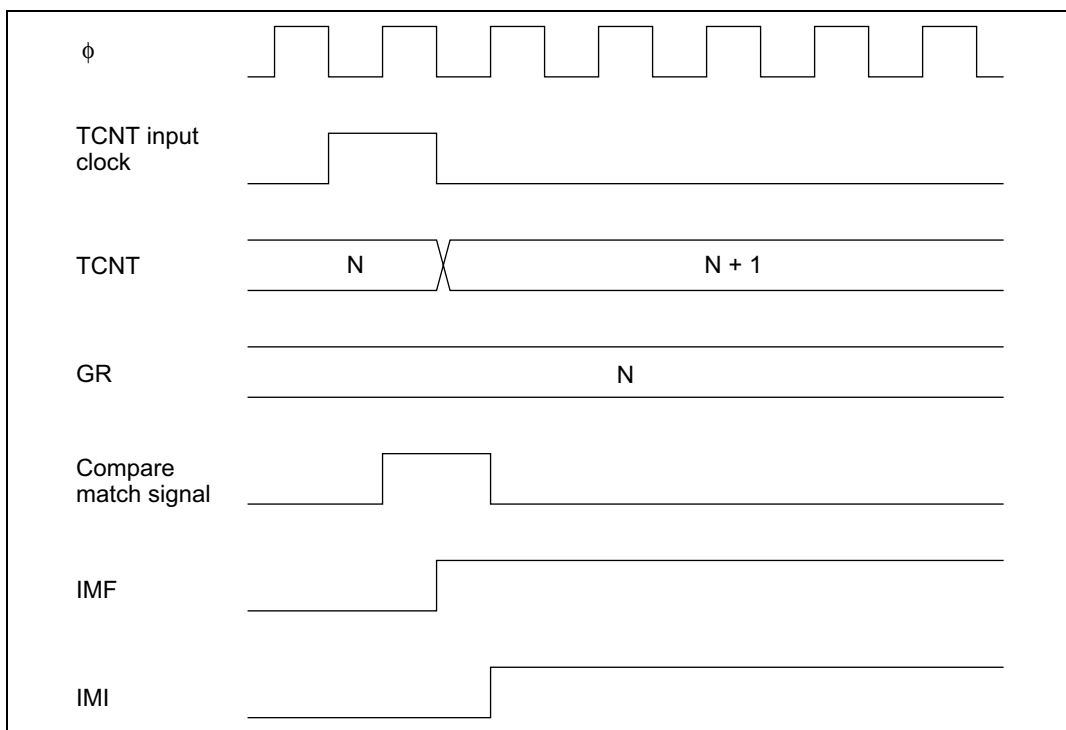

Figure 10.57 Timing of Setting of IMFA and IMFB by Compare Match
IMFA and IMFB are set to 1 by a compare match signal generated when TCNT matches a general register (GR). The compare match signal is generated in the last state in which the values match (when TCNT is updated from the matching count to the next count). Therefore, when TCNT matches a general register, the compare match signal is not generated until the next timer clock input. Figure 10.57 shows the timing of the setting of IMFA and IMFB.